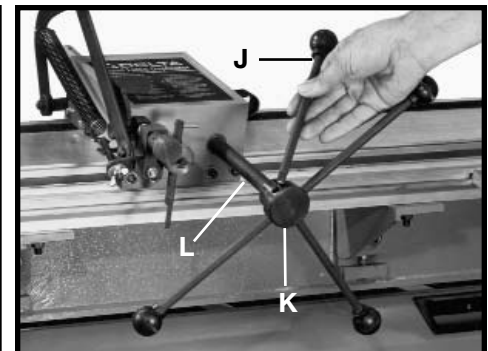

Fig. 42
1. Thread four handles (J) Fig. 42 into hub (K) of carriage shaft (L).